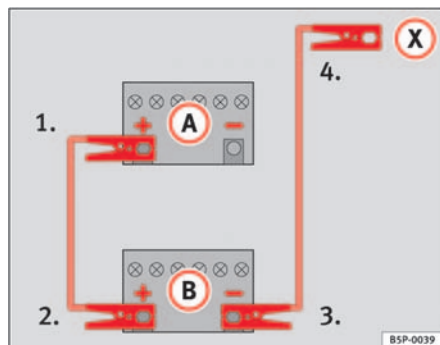

Fig. 172 How to connect the jump leads
In ⇒ fig. 172, the flat battery is **A** and the charged battery **B**.
1. Connect one end of the red jump lead to the positive ⇒ fig. 172 (+) terminal of the vehicle with the flat battery ⇒ ⚠.
4. Connect the other end of the black jump lead (X) to a solid metal component which is bolted on to the engine block, or onto the engine block itself of the vehicle with the flat battery. Do not connect it to a point near the battery ⇒ ⚠.